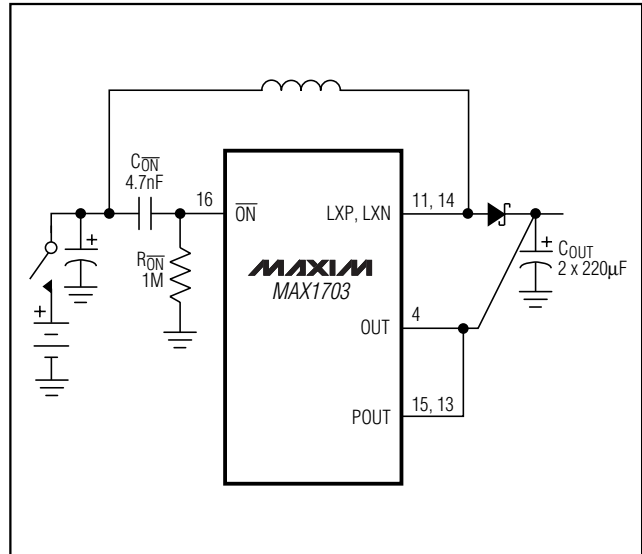

Figure 7. Connecting $C_{\overline{ON}}$ and $R_{\overline{ON}}$ when Switch or Battery-Contact Bounce is Anticipated
- 1) Connect a capacitor ($C_{\overline{ON}}$) from $\overline{ON}$ to V_{IN} and a 1M Ω resistor ($R_{\overline{ON}}$) from $\overline{ON}$ to GND, as shown in Figure 7. This resistor-capacitor network differentiates fast input edges at V_{IN} and momentarily holds the IC off until V_{IN} settles. The appropriate value of $C_{\overline{ON}}$ is 10^{-5} times the total output filter capacitance (C_{OUT}), so a C_{OUT} of 440 μ F results in $C_{\overline{ON}} = 4.7$ nF.